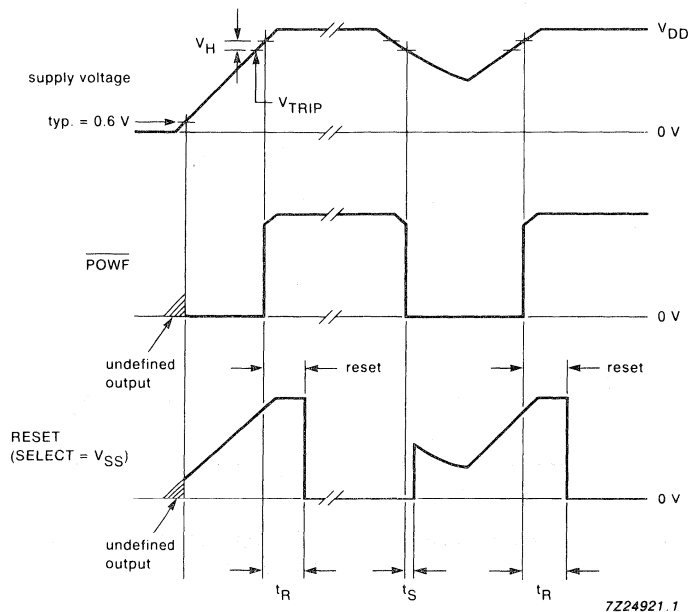

Fig.3 Timing diagram.
**CHARACTERISTICS** (see Fig.3)